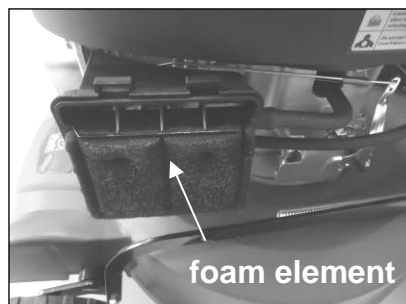

Figure 33
2. Remove the filter cover (fig. 33).